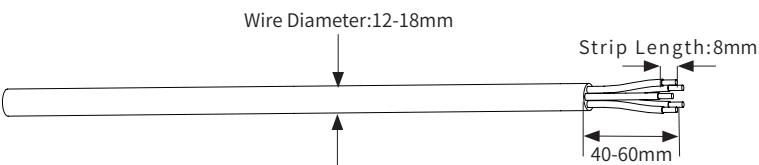

Figure 4-27
- ① According to the table above, select an appropriate AC cable, peel off the insulation sleeve of AC cable for 40~60mm, and peel off the sleeve in the conductor core of 3L/PE/N wires for 8mm, as shown in Figure 4-27: